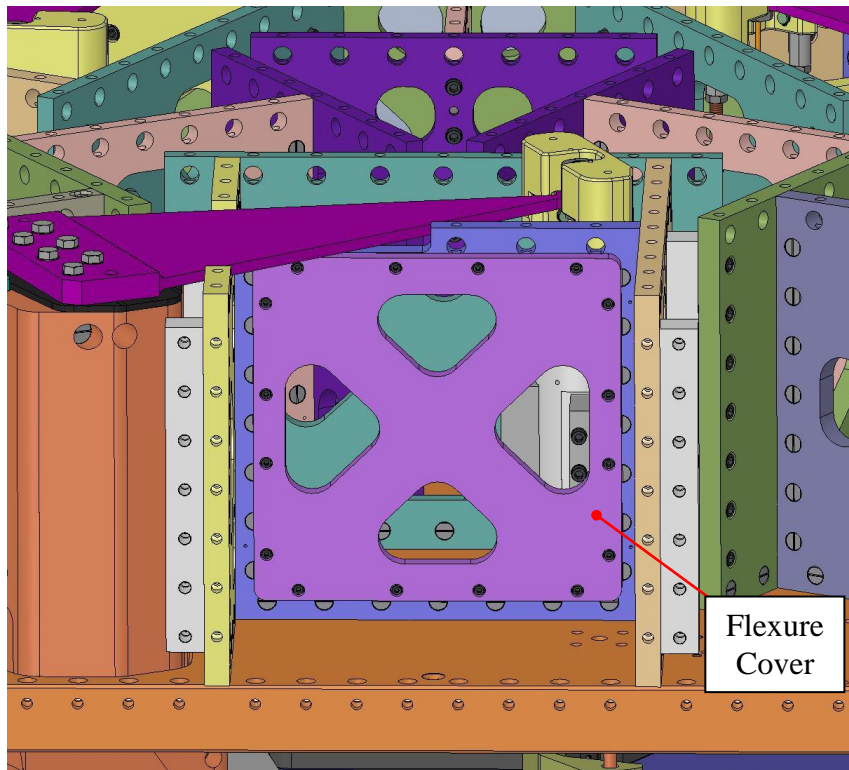

Figure 3.102. Orientation of Flexure Mid Cover is not important.
- Bolt (3) **Rib, Tan, Flexure Mid Covers** (D071072) to **Rib, Tan, Flexure Mid** plates (D071071), as shown in Figure 3.102. For each **Cover**, first snug all screws, then torque to final spec.